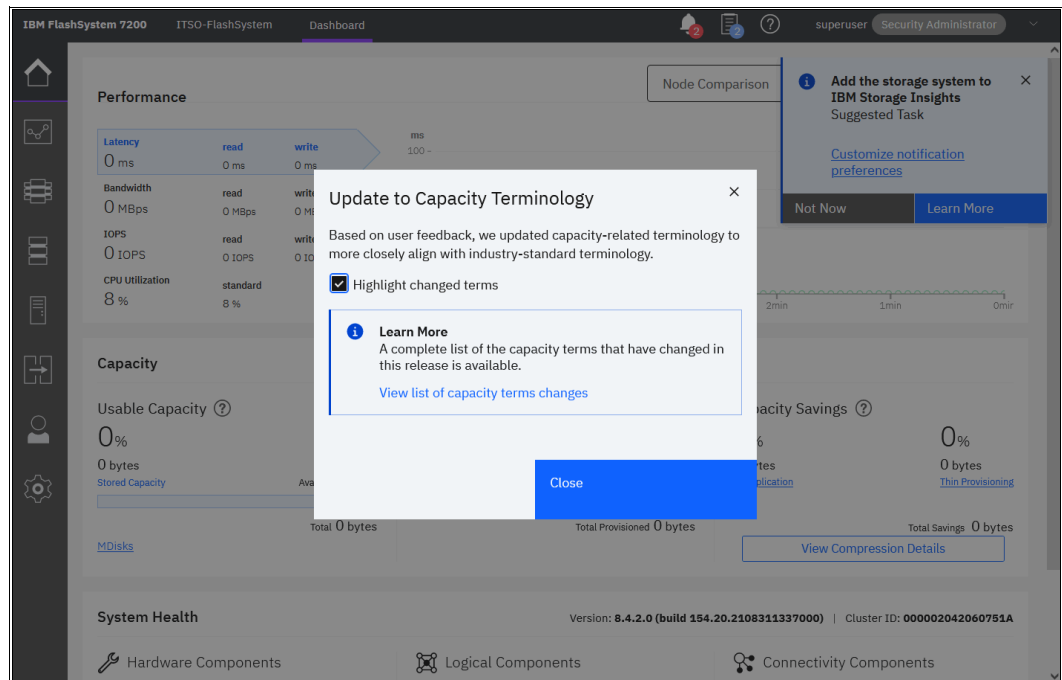

Figure 3-33 System Setup directs the user to the system GUI Base configuration
23. After completing all steps of the System Setup wizard, the system GUI opens, as shown in Figure 3-33.